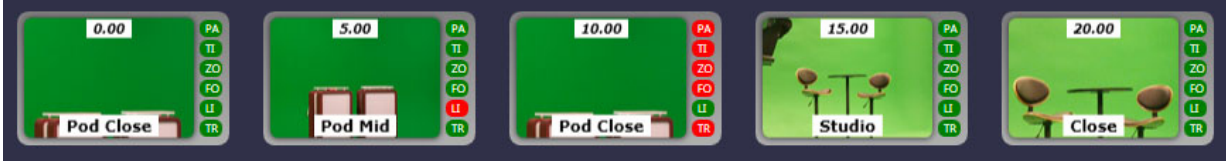

Figure 43 - A Move in which the Start of the Lift Axis is Delayed Until the Third Keyframe
4. Enable axes as required (Figure 43):